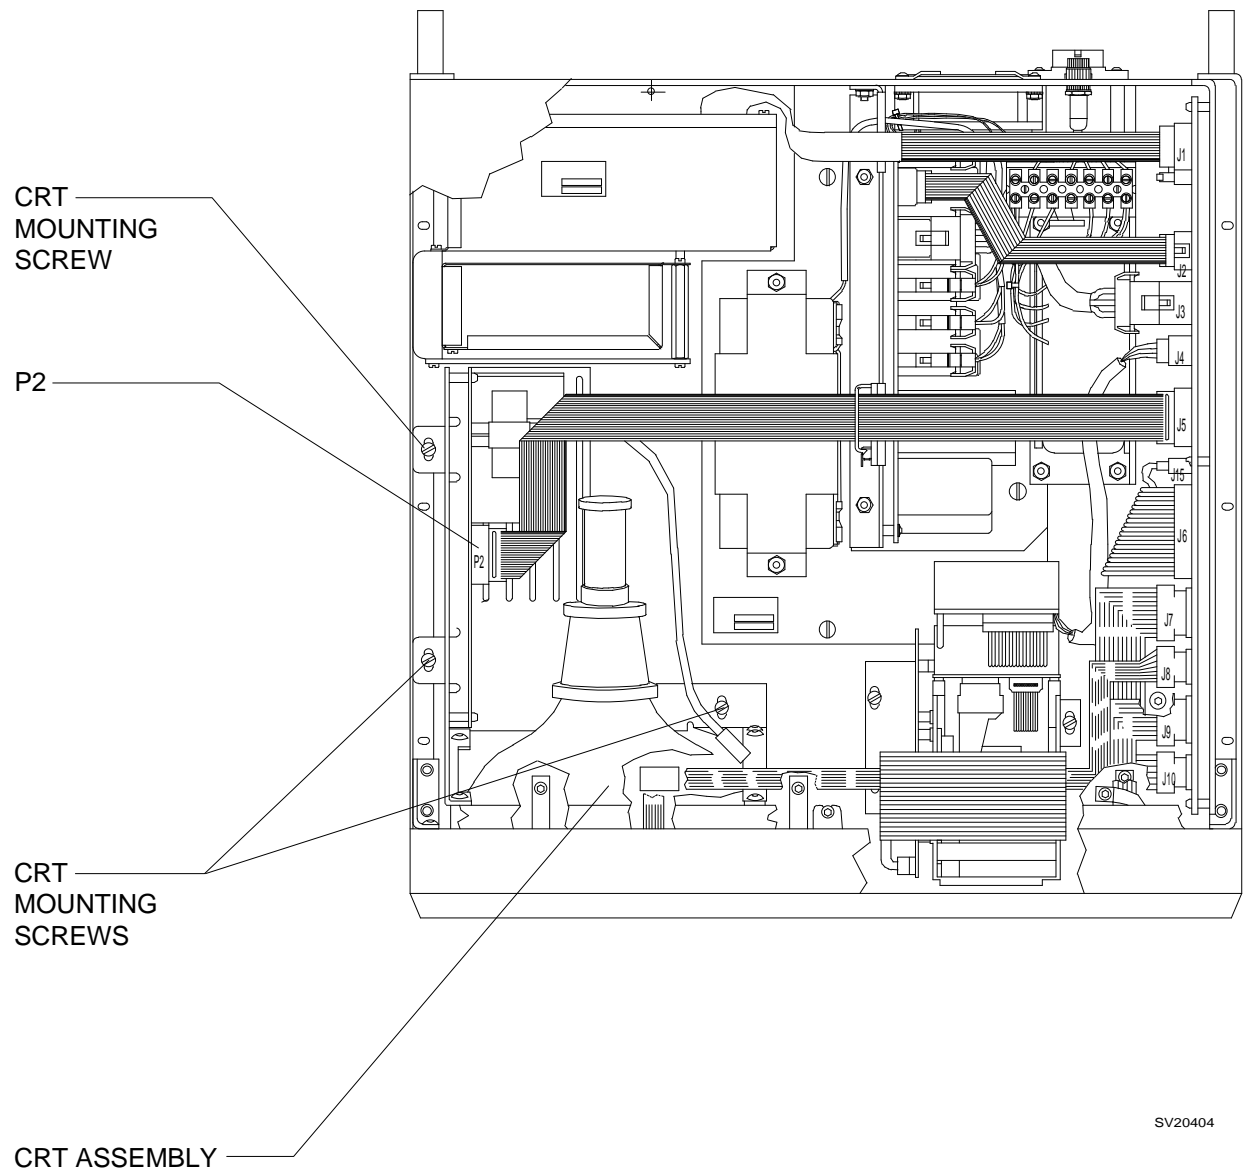

Figure 1: LOCATION OF CRT ASSEMBLY AND CONNECTIONS
5. Disconnect the CRT cable from P2 on the CRT assembly. See Figure 1.